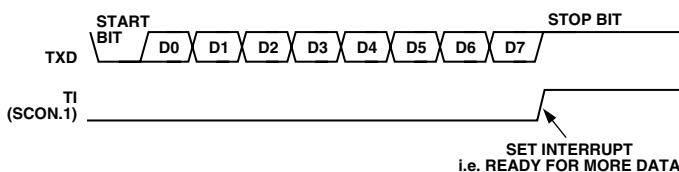

Figure 41. UART Serial Port Transmission, Mode 0.
Transmission is initiated by writing to SBUF. The ‘write to SBUF’ signal also loads a 1 (stop bit) into the ninth bit position of the transmit shift register. The data is output bit by bit until the stop bit appears on TXD and the transmit interrupt flag (TI) is automatically set as shown in Figure 41.